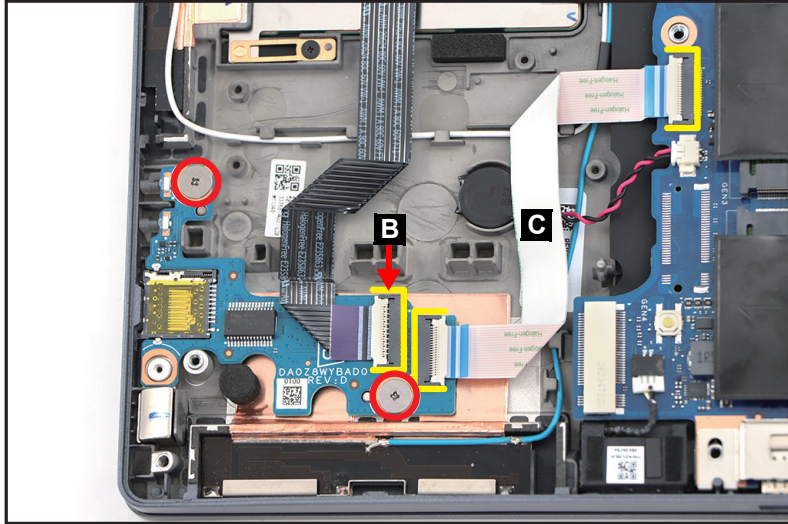

Figure 1-54. Card Reader Board Removal
2. Disconnect the smart card reader FFC from the card reader board connector (B) (Figure 1-54).
3. Disconnect the card reader board FFC (C) from the card reader board and mainboard connectors (Figure 1-54). Then remove the FFC.
4. Remove two (2) screws securing the card reader board (Figure 1-54).